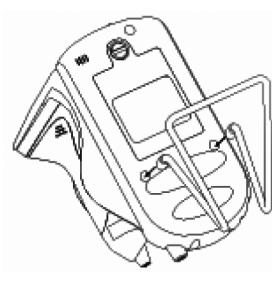

Figure 4
- 4) Fixing Holder (figure 4).